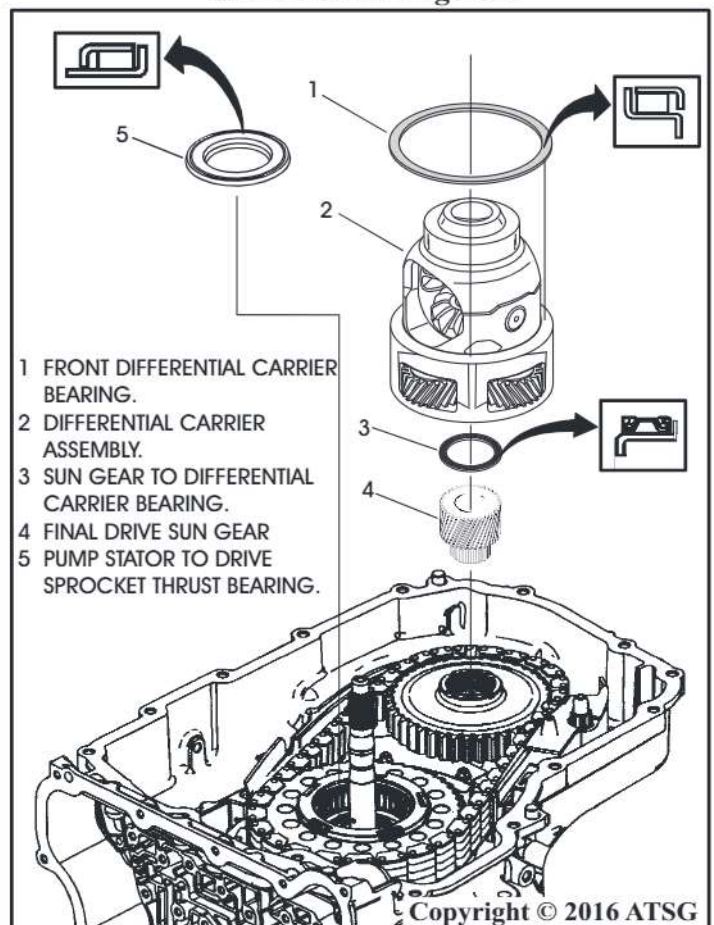

Figure 166
77. Install the pump stator to drive sprocket hub thrust bearing as shown in Figure 166.
78. Install the final drive sun gear into the driven sprocket splines, the sun gear to differential carrier bearing, the assembled final drive carrier and the front differential carrier bearing as shown in Figure 166, lubricate all bearings.